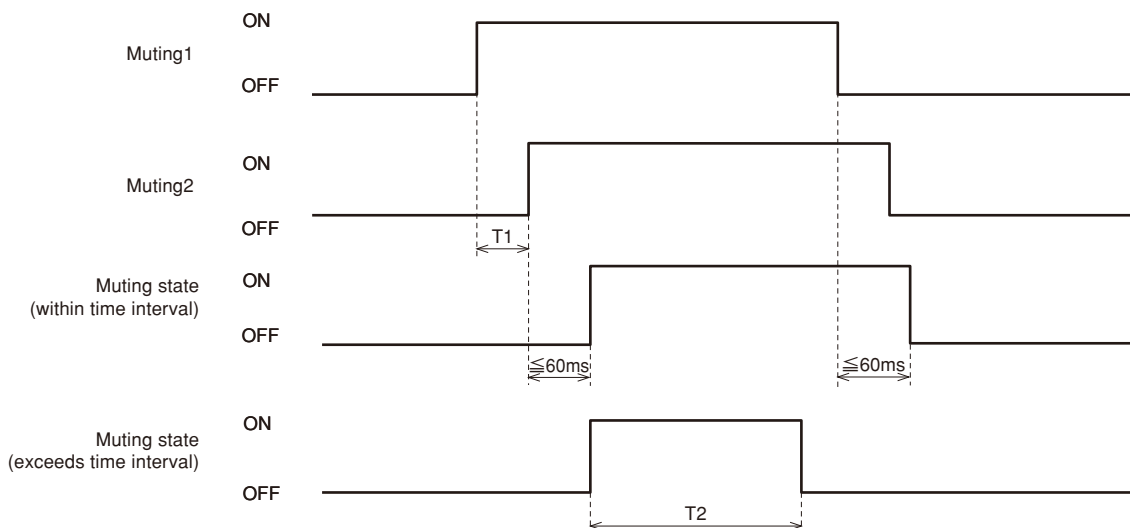

Figure 3-12. Muting sequence
- b) The two independent hard wired muting input signal are switched in the predefined sequence. The sequence includes the switching order of the muting and the switching time interval $T1$ as shown in figure 3-12.